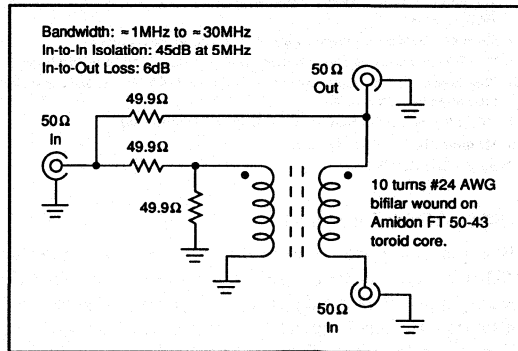

FIGURE 5. Passive Signal Combiner.
7. Two-tone testing will require high isolation between test signal generators to prevent IMD generation in the test generator output circuits. A passive (hybrid transformer) signal combiner can be used (Figure 5) over a range of about  $0.1\text{MHz}$  to  $30\text{MHz}$ . This combiner's port-to-port isolation will be  $\approx 45\text{dB}$  between signal generators and its input-output insertion loss will be  $\approx 6\text{dB}$ . Distortion will be better than  $-85\text{dBc}$  for the powdered-iron core specified. Avoid ferrites.